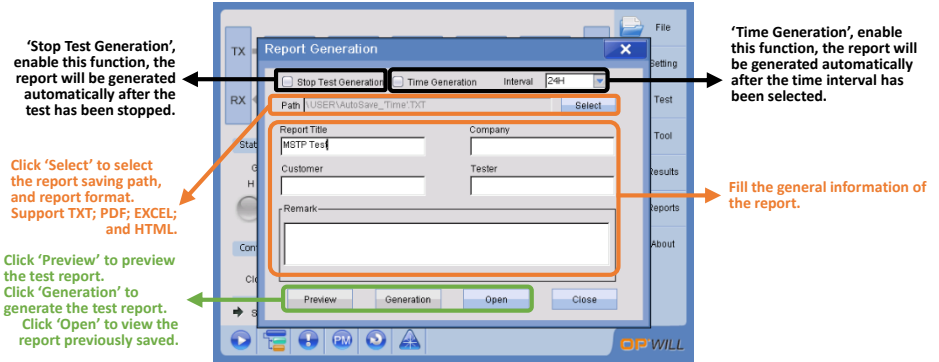

Figure 4.1.16 Report Generation Dialog Box
- After click 'Report Generation', the dialog box of report generation will appear, see Figure 4.1.16;